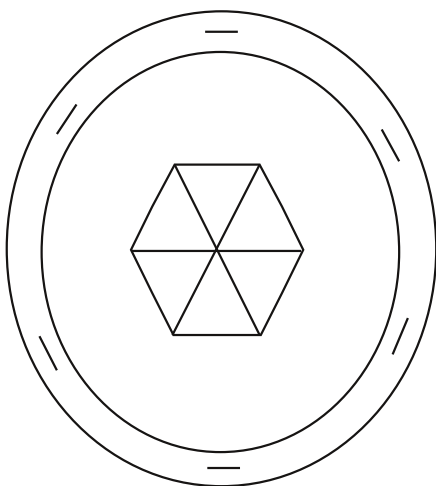

Fig. 4 Site of slits made in the tri-rod base support.
15) Using a sharp utility knife, cut 1in slits at the top of the tri-rod base that corresponds with each side of the tri-rod tube at the center (see Fig. 4).